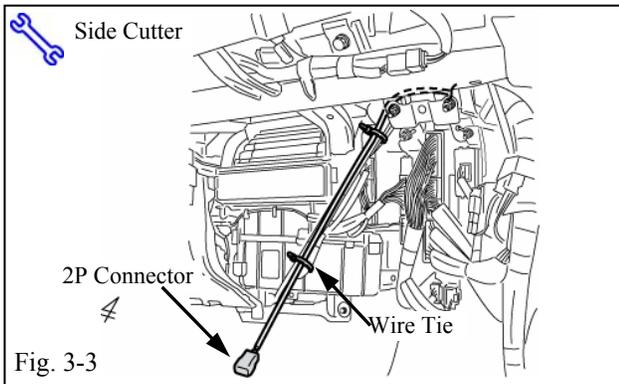

Fig. 3-3
- (f) Route the V5 Harness downward to the Passenger's Floor, securing it to the Vehicle Harness with 1 Wire Tie. (Fig. 3-3)